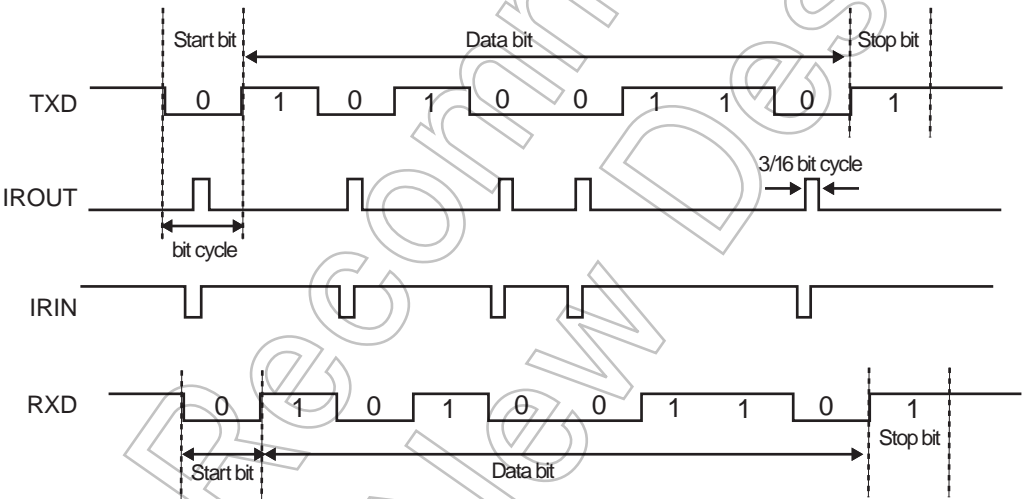

Figure 16-4 IrDA Data Modulation
**Note:** The transmit encoder output (**IROUT**) has the opposite polarity to the receive decoder input (**IRIN**). Please refer to Figure 16-4